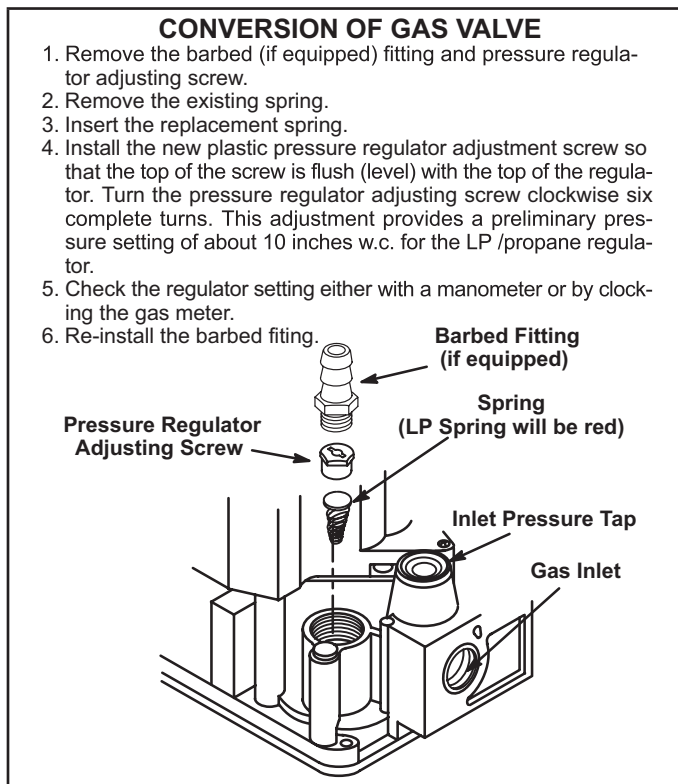

FIGURE 6
- 6 - Replace the gas valve regulator spring with the provided regulator spring. See figure 6.